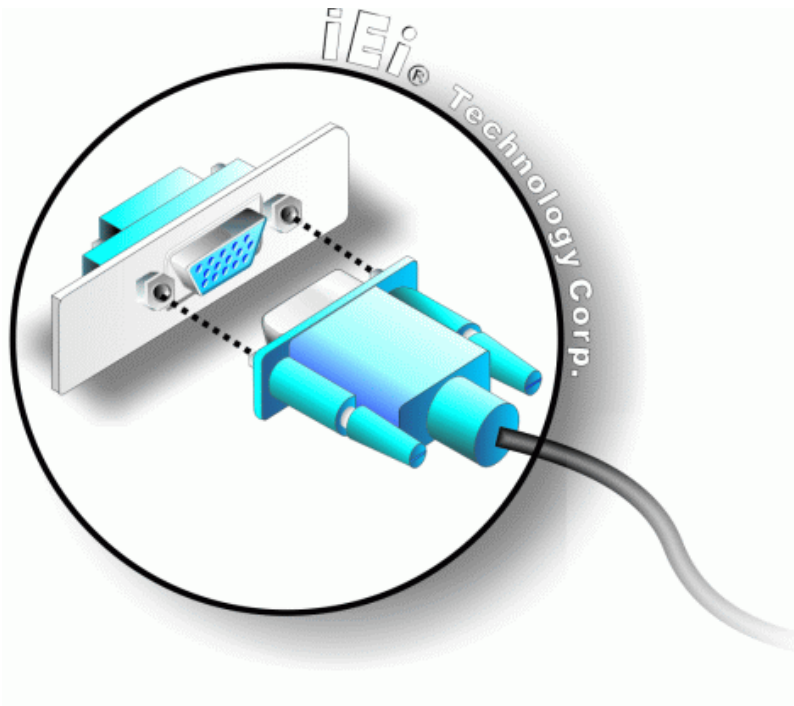

Figure 5-21: VGA Connector
- Step 2:** Insert the VGA connector. Insert the DB-15 connector of a VGA monitor into the DB-15 connector on the external peripheral interface. See **Figure 5-21**.